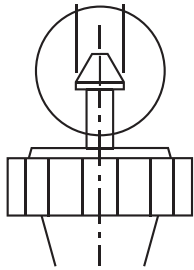

Fig. 69
- a) Only the peg of the impact body (marked with a circle, Fig. 69) may be lightly oiled or greased.